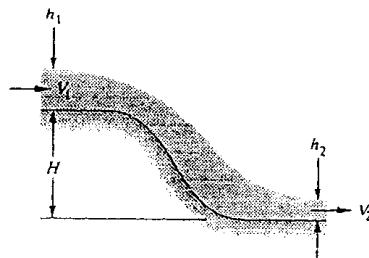

Fig. P3.177
**3.177** For the water-channel flow of Fig. P3.177,  $h_1 = 1.5 \text{ m}$ ,  $H = 4 \text{ m}$ , and  $V_1 = 3 \text{ m/s}$ . Neglecting losses and assuming uniform flow at sections 1 and 2, find the downstream depth  $h_2$ , and show that two realistic solutions are possible.